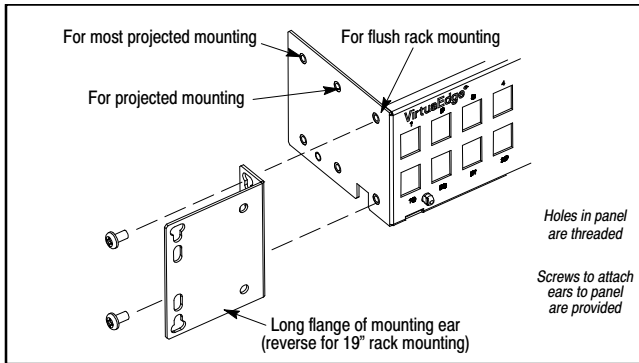

Figure 2. Attaching Ears for Flush-mounting in 23" Racks
2. **Determine shelf projection.** The mounting ears and the panel's side flanges have three sets of mounting holes from which to choose, for the desired amount of projection in the rack (see Figure 2). If a *projected look* or orientation in the rack is desired, attach the ears to the panel in the